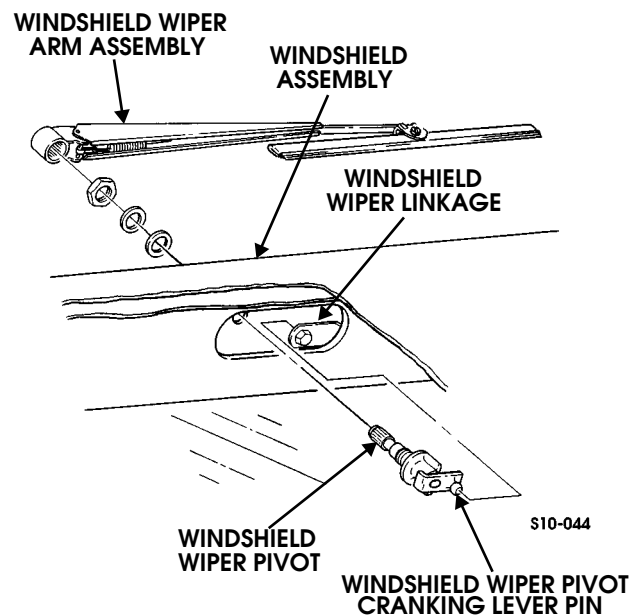

Figure 10-113: Windshield Wiper Pivot Replacement
3. Remove windshield wiper linkage from windshield wiper pivot cranking lever pin (Figure 10-113).
1. Secure windshield wiper pivot to windshield assembly with rubber washer, washer and nut (Figure 10-113).